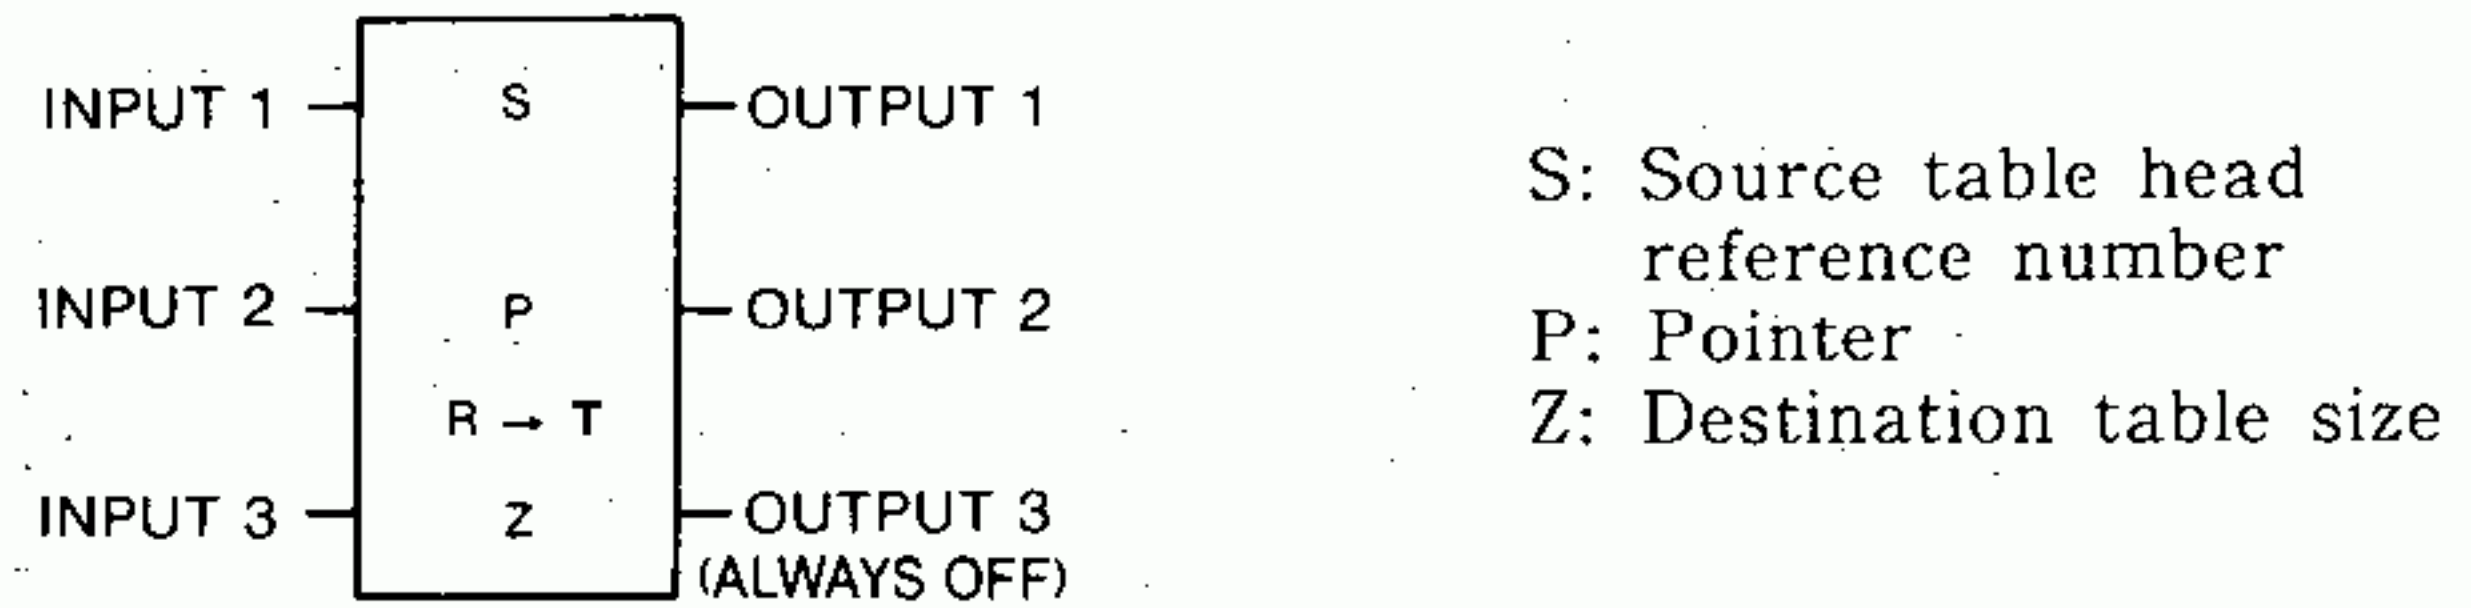

Fig. 5.52 $R \rightarrow T$ General Form
- Fig. 5.52 shows the form of register-to-table move.